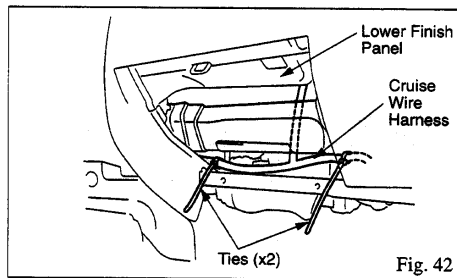

Fig. 42
- (19) Route the wires around the passenger's side glove box as shown in the figure. (2 tie straps) (Fig. 42)